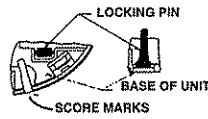

FIGURE 7
To make the smoke alarm somewhat tamper resistant, a locking pin has been provided in the base of the unit. It will help deter a child or other individual from removing the smoke alarm from the bracket. See Figure 7. This can be installed using the following directions.
- Remove the break-away locking pin from the base of the unit by rocking the pin back and forth (see Figure 7).
- Create opening with long-nose pliers between score marks on base of unit near where the locking pin was removed (see Figure 7).